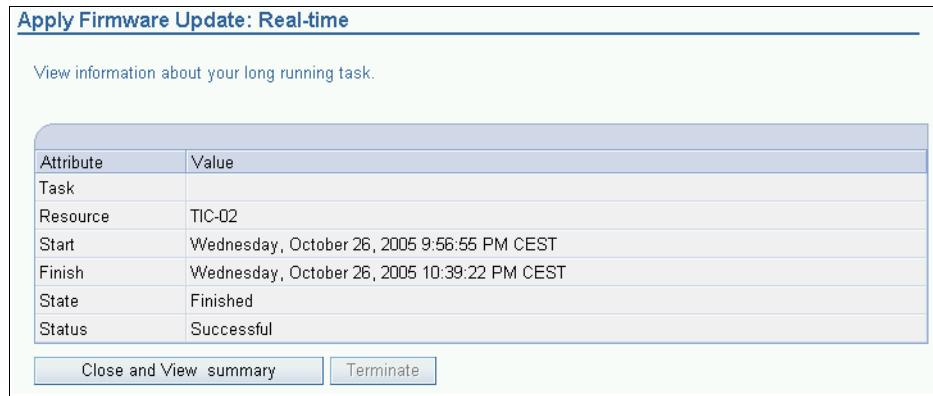

Figure 20-12 Successful completion of a concurrent microcode installation
7. Finally, when the microcode activation has finished successfully, a success message will be displayed (Figure 20-12).